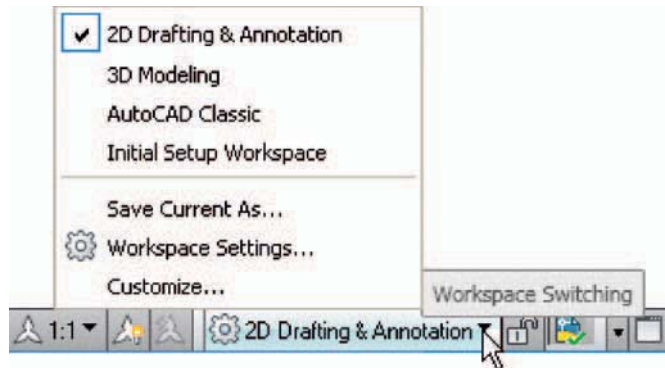

Fig. 15.1 Click 3D Modeling in the Workspace Settings menu
1. Click the **Workspace Switching** button and *click 3D Modeling* from the menu which appears (Fig. 15.1).